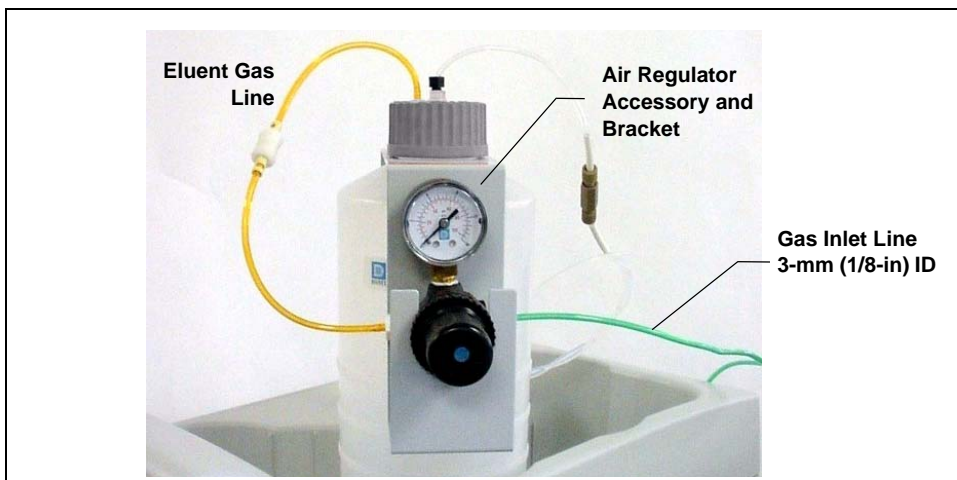

Figure 101. IC System Pressurized Eluent Reservoir Connections (Optional)
Figure 101 illustrates the eluent reservoir after all gas connections are complete.
5. Slip the air regulator accessory bracket over the neck of the eluent reservoir (see Figure 101).